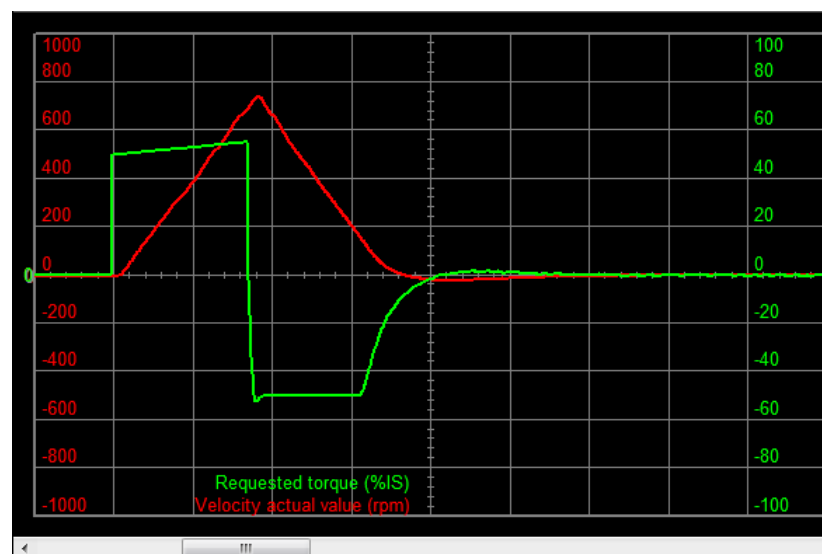

Figure 20.8. Example of a correct estimate of the inertia moment.
- If the stop has a behaviour similar to the one that's reported in Figure 20.8, so without vibrations, without noise and with a little and immediatly damped overshoot, then the velocity loop tuning is finished without problems.